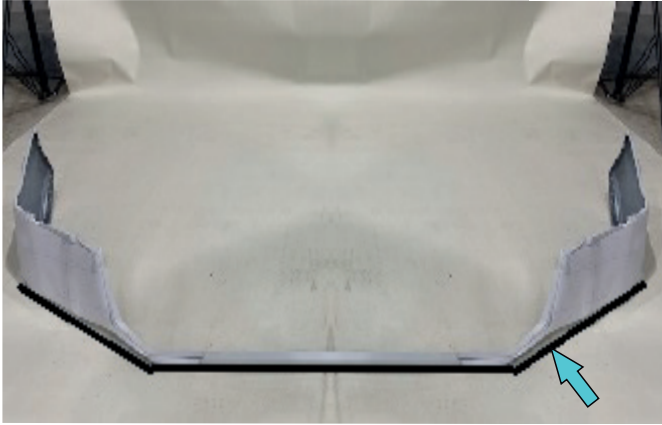

Fig.43
43. Mark cutting lines using template (fig.43).